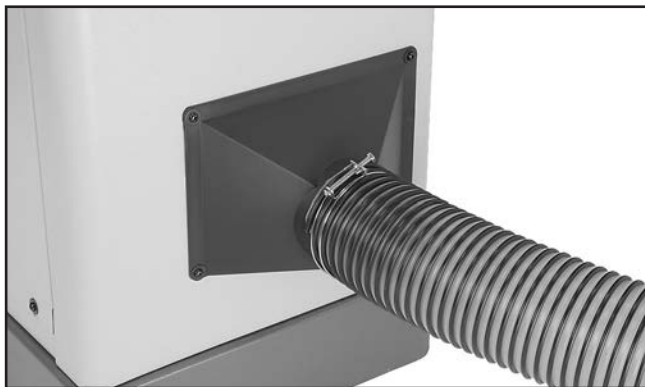

Figure 29. Dust hose attached to dust port.
1. Fit 4" dust hose over dust port, as shown in **Figure 29**, and secure with a hose clamp.